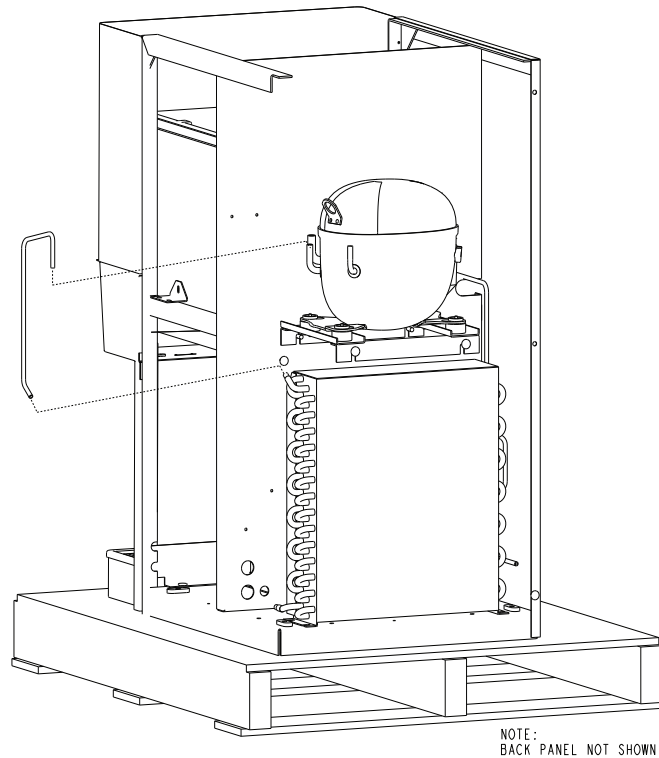

Figure 5. Connection of Discharge Tube
7. Release the Nitrogen from the Compressor. Connect the Discharge tube as shown in Figure 5.